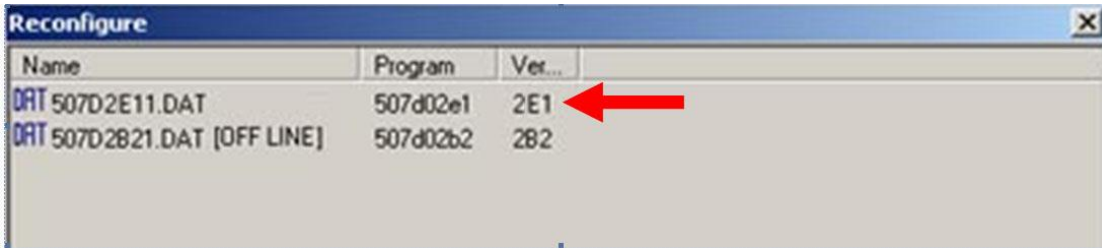

Figure 17
3.9. Select the 2E1 (arrow, Figure 17) software and confirm with 'GO' and then with: **YES**.